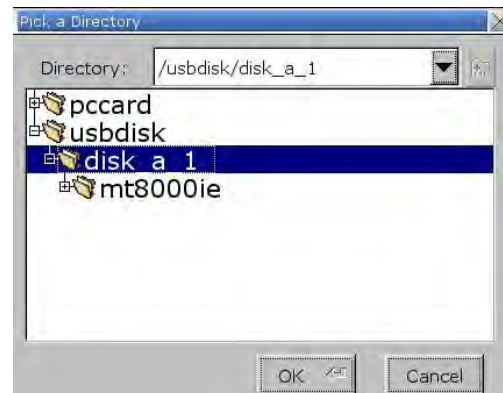

Figure E.10: Subdirectories
4. Another pop-up menu (Figure E.10) will appear prompting for a password. Using the keyboard displayed on the screen, enter 111111. Check the box that indicates Download Project files and uncheck the boxes that indicate Clear History files and Download History files. Select OK.